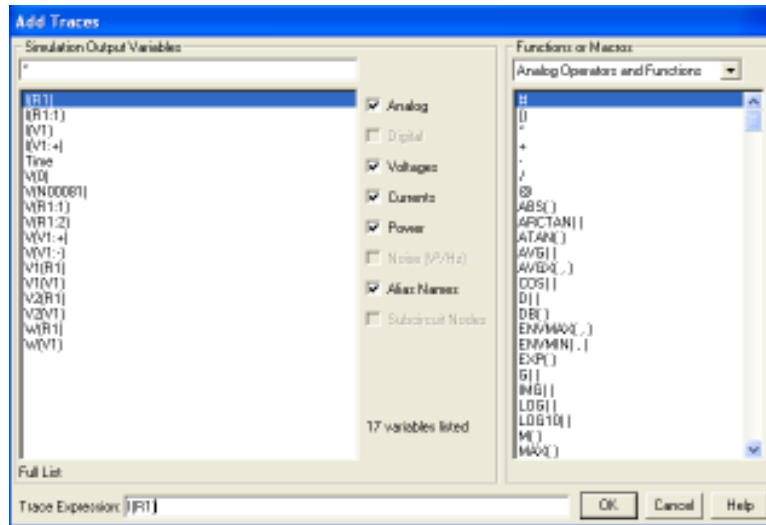
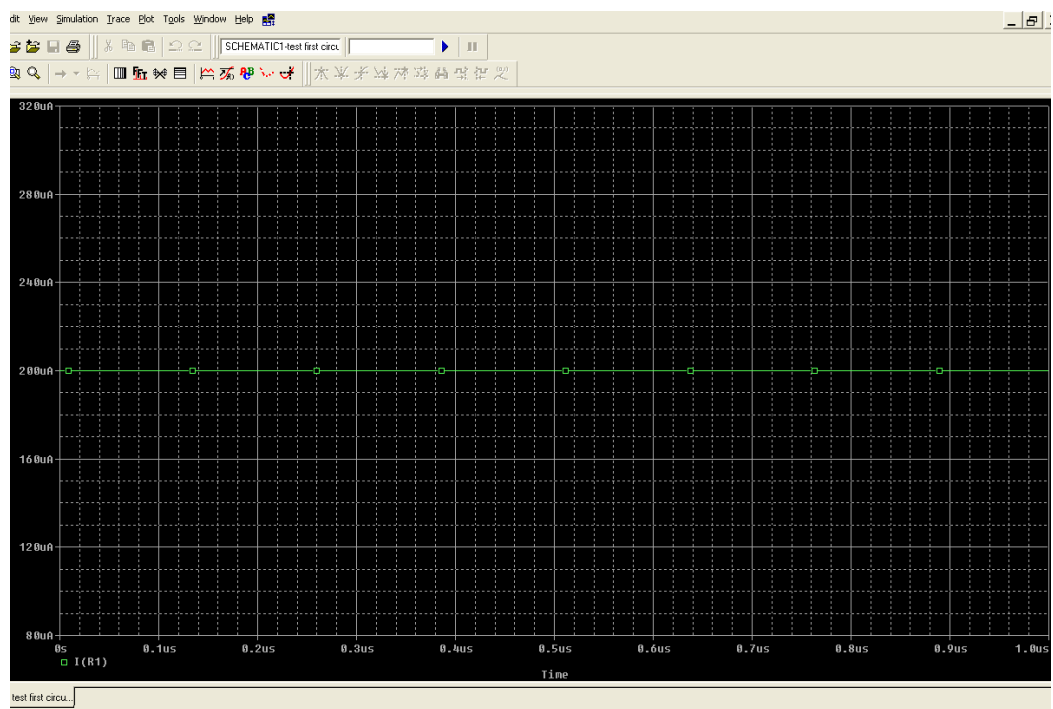

Figure 9 – Add Trace Dialog
Figure 10 – Simulation Waveform
- d. Select Trace → Add Trace or click the  button. Once the add trace dialog is open, find I(R1). Click OK as shown in Figure 9. Simulation waveform will be displayed as shown in Figure 10.